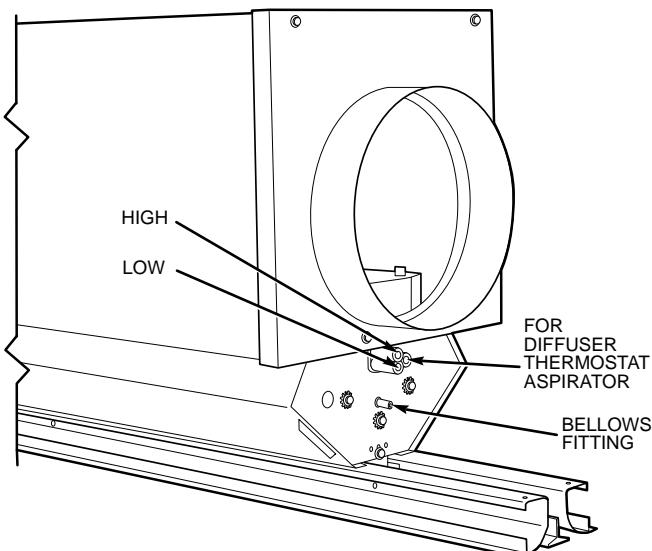

Fig. 4 — Typical 37HS Air Terminal Before Installation of Controls
2. Remove cap from bellows fitting (see Fig. 4) and install $1\frac{1}{16}$ -in. piece of $\frac{1}{4}$ -in. OD pneumatic tubing onto the bellows fitting (push on full length of fitting).
2. Remove cap from bellows fitting and install 11/16-in. long piece of 1/4-in. OD pneumatic adapter tubing onto the bellows fitting (push on full length of fitting). See Fig. 4.